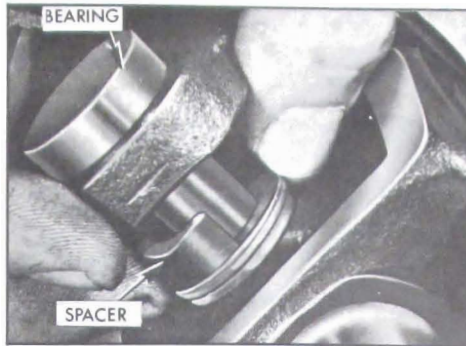

Figure 6-100—Installing Spacer
4. Release the pump and remove the propeller shaft. Install Spacer J-9522-5 over the spider journal at the space provided with bearing forced partially through the yoke. See Figure 6-100. Reposition the propeller shaft in the fixture as before and force the bearing completely out of the yoke with the added assistance of the Spacer.